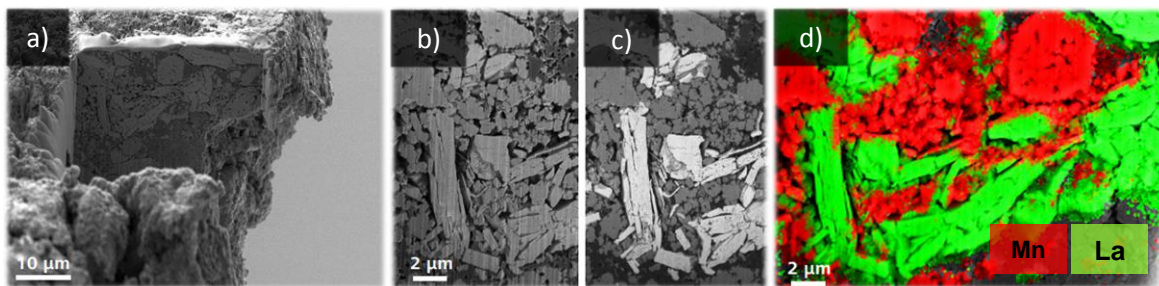

Figure 3 - Cross-sectional analysis of LiMn_2O_4 cathode material of a lithium ion battery, using different modes
Figure 3 shows a working example of studying a cathode from a lithium ion battery. Image a) shows a cross-section of the cathode, produced by the FIB. Images b) and c) show the cross-section being imaged in secondary electron (SE) mode, for morphology, and backscattered electron (BSE) mode, for compositional distribution. Image d) shows an energy dispersive x-ray spectroscopy (EDS) map, illustrating the distribution on manganese (Mn) and lanthanum (La).